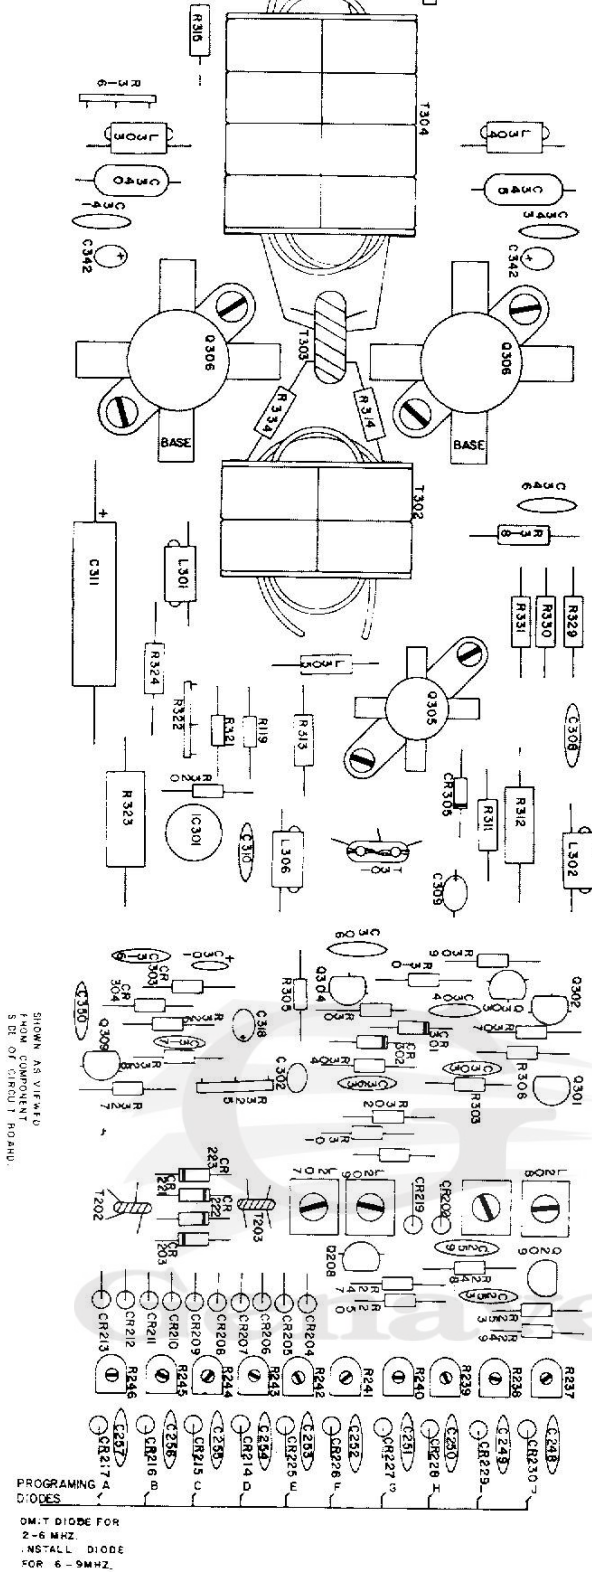

Figure 4-2. Transmitter Component Layout (Top View)
1. With transmitter module removed from unit chassis, refer to Figure 4-2 for exciter-filter "programming diode" locations.
3. For each channel having an operating frequency below 6.0 MHz, ascertain that a programming diode is NOT installed in that channel. See Figures 4-2 and 4-3.
4. For each channel having an operating frequency above 6.0 MHz, install an FD1936, or equivalent, programming diode in the location shown in Figure 4-2. Position diode(s) so that cathode(s) are connected to the common bus, and anode(s) connect to the appropriate potentiometer.
4. Grasp edges of exciter shield cover, and carefully lift cover up and away from exciter. Locate "ALC Adjust" potentiometer R325 (refer to shield cover label and/or Figure 4-2).
4. Connect DC VOM to base of either Q306 or Q307 Power Amp. transistors (see Figure 4-2).
5. Turn unit ON and key transmitter. Adjust "bias adjust" potentiometer R322 (Figure 4-2) for a DC voltage reading between 0.6 and 0.65 volts on base of power amp. transistors.
7. With channel selector still set to channel A, key transmitter and whistle into microphone or use dummy mic. Adjust channel A trimmer potentiometer R246 (see Figure 4-2) for maximum output indication on DC VOM.
8. Continue to next channel, and adjust exciter filter by adjusting appropriate trimmer potentiometer as shown above. Potentiometer locations for each channel are given on exciter shield cover label as well as in Figure 4-2.
3. Remove exciter-shield cover by pulling cover up. Locate "ALC Adjust" potentiometer R325 (refer to shield-cover label and/or Figure 4-2).
6. Locate "ALC Level" potentiometer R316 (Figure 4-2) - this control sets the operating level of the ALC.